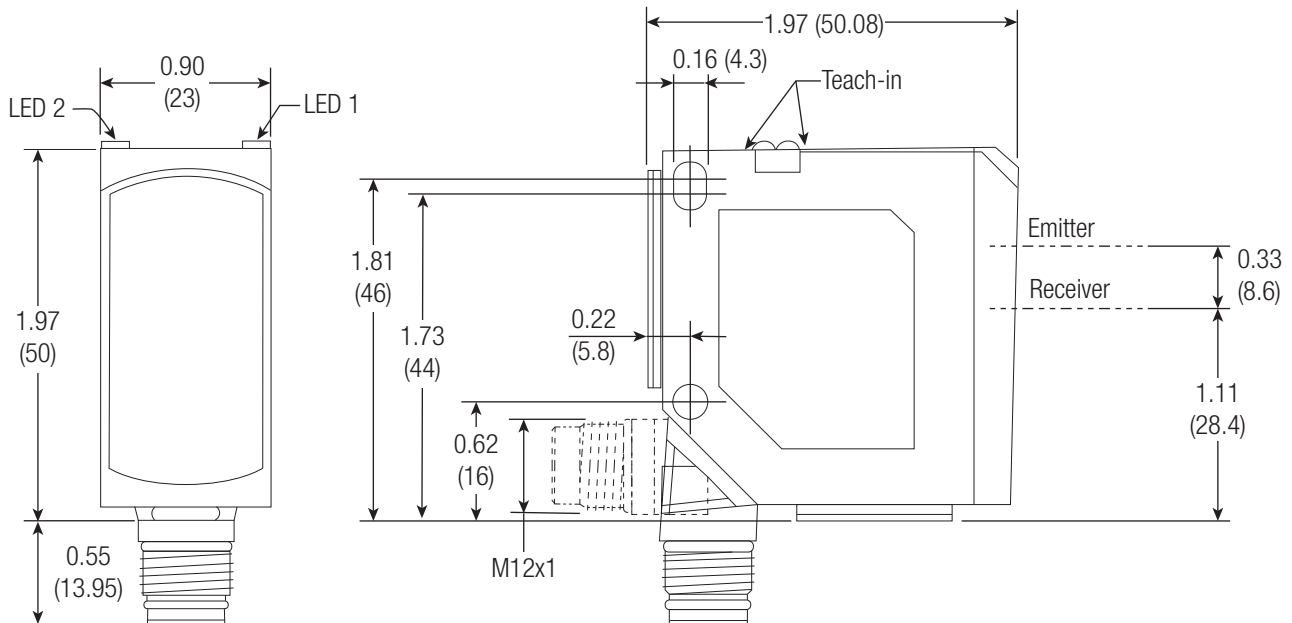

Figure 3-1
3.2.1 Overall features of BridgeGuard Pro can be seen below. See **Figure 3-1**.